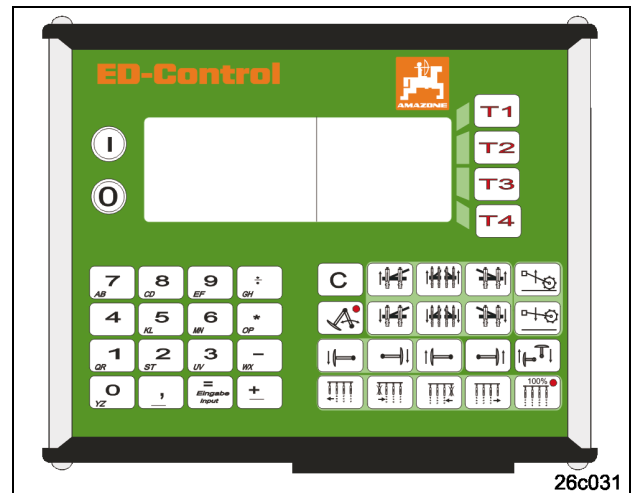

Fig. 44
- ED-Control (Fig. 44).
ED-Control (Fig. 44) is an implement specific terminal and covers all function of the AMASCAN-Profi.